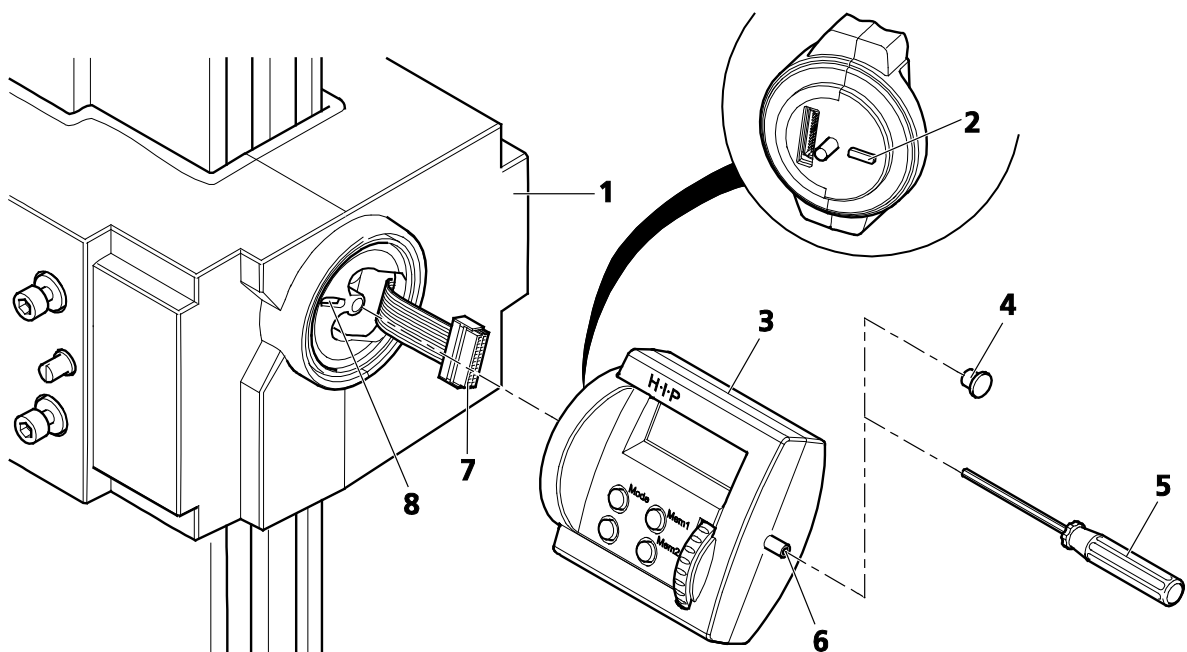

Fig. 8 Installing the HIP control unit
Install the HIP (Fig. 8/3) to the microscope body (zoom function) or motorized focusing drive (focus function) as follows:
- Remove the cover (right) from the microscope body or focusing drive (Fig. 8/1).
- Pull out the connecting cable (Fig. 8/7) slightly without applying force and connect it carefully to the corresponding HIP connector socket.
- Push the cable fully back into the casing without bending it; carefully attach the HIP so that the nose (Fig. 8/2) on the HIP engages in the groove provided (Fig. 8/8).
- Screw in the socket head screw (SW 3) (Fig. 8/6) as far as it will go using the ball-head screwdriver (Fig. 8/5).
- Push the cover cap onto the HIP (Fig. 8/4).